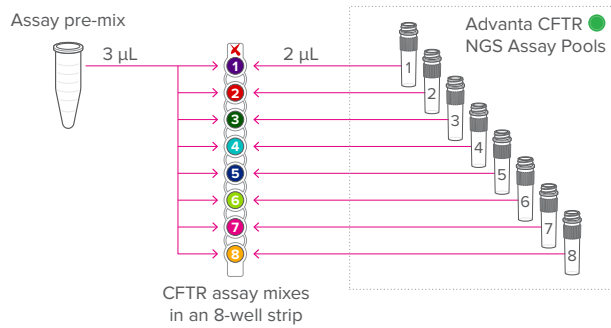

Figure 2. Preparation of CFTR assay mixes
- b Add 3 µL of assay pre-mix to each well in the strip. Pipet components according to the diagram shown in Figure 2 on page 2.